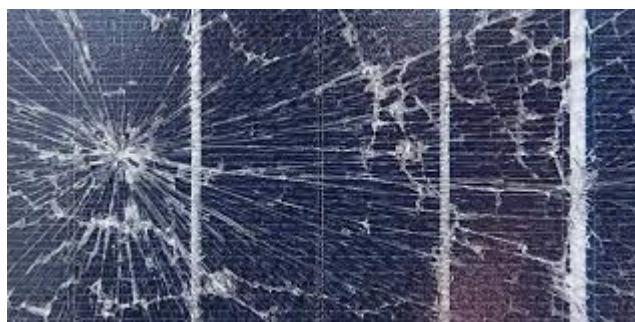

Fig 2.7: Broken glass of solar panel
- Ensure that no module is broken, twisted, scratched, or cleaned. If it is broken, repair it (Fig. 2.7).